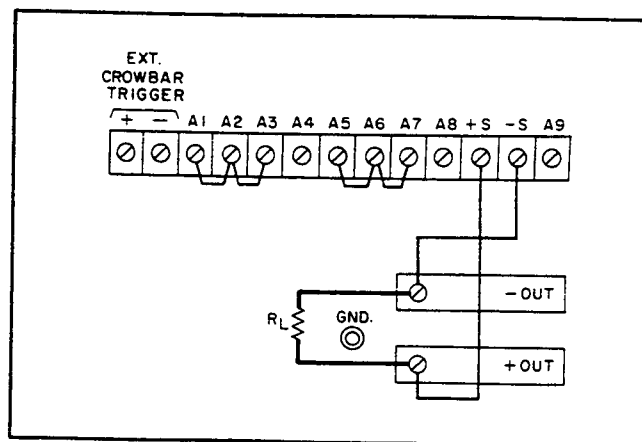

Figure 3-2. Normal Strapping Pattern
a. Turn CURRENT controls ⑦ and OVERVOLTAGE ADJUST potentiometer ⑤ fully clockwise and check that rear panel straps are connected as shown in Figure 3-2, but do not connect load R_L .
c. Set LINE switch or circuit breaker ① ON and observe that pilot lamp ② lights.
d. Adjust COARSE and FINE VOLTAGE controls ③ for desired indication on voltmeter ④.
e. Ensure that overvoltage crowbar circuit is operational by slowly turning OVERVOLTAGE ADJUST control ⑤ counterclockwise with a screwdriver until OVERVOLTAGE lamp ⑥ lights and voltmeter indication drops to zero volts.
g. To check the constant current circuit, first turn off the supply, connect a short across the output bus bars (see Figure 3-2), and turn it back on.
h. Adjust **COARSE** and **FINE CURRENT** controls ⑦ until ammeter ⑧ indicates desired output current or current limit. (The **VOLTAGE** controls must be set for a greater-than-zero output to obtain the output current programmed.)
3-7 This power supply was shipped with the proper rear panel strapping connections made for constant-voltage/constant-current operation with local sensing and local programming. This strapping pattern is illustrated in Figure 3-2. By means of the front panel voltage and current controls, the operator selects either a constant-voltage or a constant-current output. Whether the supply functions in the constant-voltage or the constant-current mode depends on the settings of the voltage and current controls and on the resistance of the output load. For values of load resistance greater than a critical crossover value equal to the voltage setting divided by the current setting, the supply operates in the constant-voltage mode. With a load resistance smaller than this critical value, it operates in the constant-current mode. The transition occurs automatically; no switches need to be operated or connections changed.
3-28 Because of the unavoidable voltage drop developed in the load leads, the normal strapping pattern shown in Figure 3-2 will not provide the best possible voltage regulation at the load. If, for example, one were to use 4-gauge wire to connect a load that is located only 5 feet from a
The +S jumper is the one that links the +S terminal to the +OUT terminal when the supply's terminals are strapped for normal operation as shown in Figure 3-2. The -S jumper is the one that links the -S terminal to the -OUT terminal.